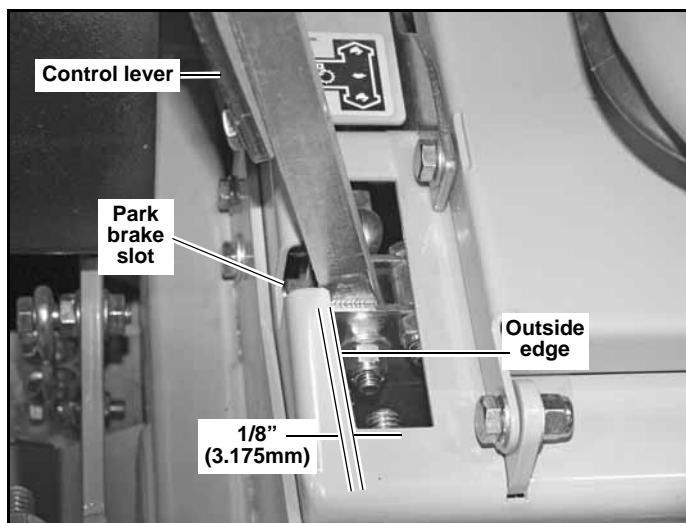

Figure 4-12
7. Move the steering control lever to where it is just inside (1/8" [3.175mm]) the park brake slot. Figure 4-12
- b. Place the control lever in the park brake slot. The tire should not rotate when the control lever is in the park brake position. Figure 4-12